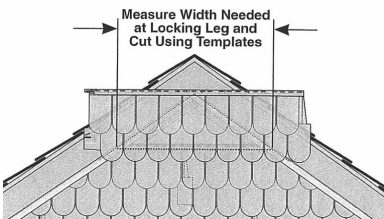

Fig.29
a. Measure width needed at bottom lock (see Figure 29).